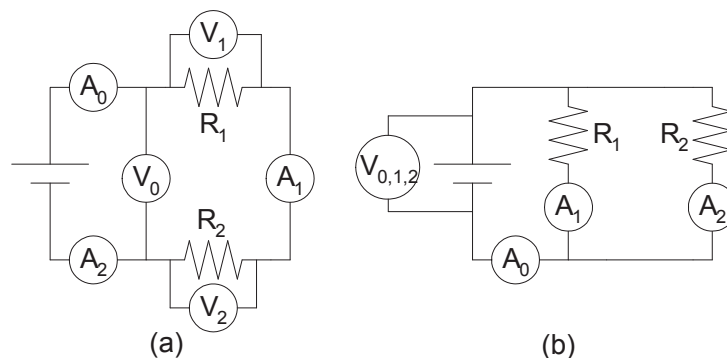

Figure 5.4: Current and voltage measurements for (a) a series circuit, and (b) a parallel circuit.
2. Starting with a series circuit [see Fig. 5.4(a)], identify the appropriate template and wire the circuit for the first set of measurements. When your circuit has been checked, turn on the power supply and adjust it to approximately 10 volts.
4. Follow the same approach with the parallel circuit [see Fig. 5.4(b)]. You will notice a different pattern of currents and voltages from what you saw with the series circuit. Here